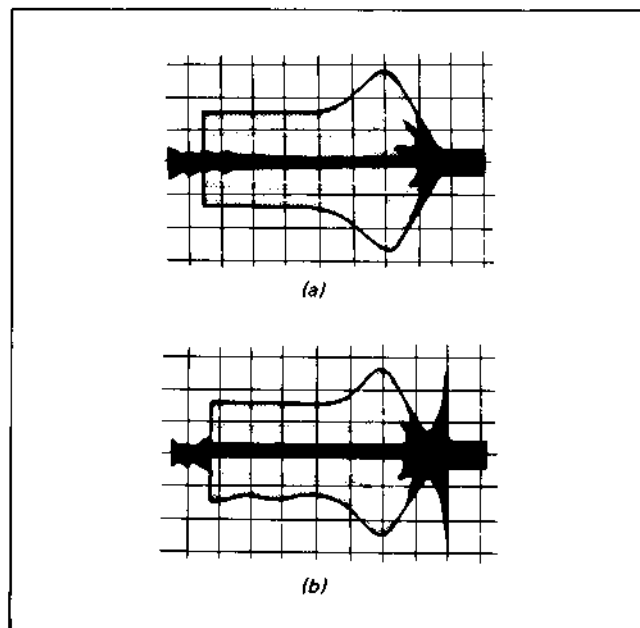
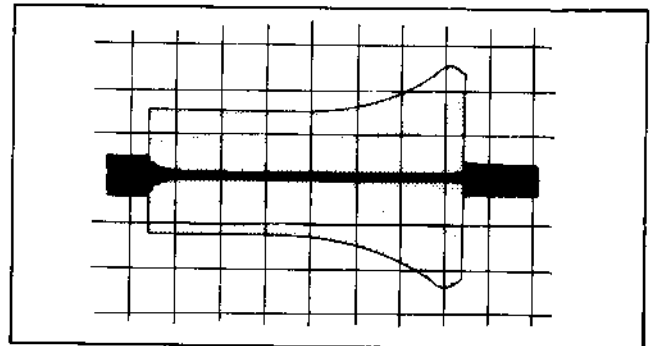
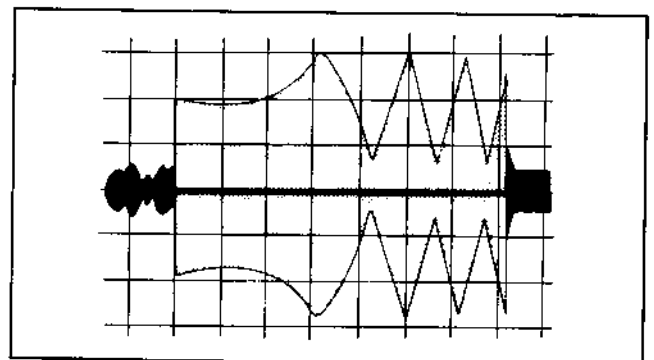

Fig. 4-7
Fig. 4-9
Fig. 4-10
- i) If the exit free waveform is within the range illustrated in Fig. 4-7(a), (b), proceed with exit side adjustment.
- i) If the waveform is within the range illustrated in Fig. 4-7(a), (b), proceed with the adjustment.
- ii) If the exit free waveform appears as shown in Fig. 4-9, turn the ACE lateral adjustment screw clockwise until the waveform is within the range illustrated in Fig. 4-7(a), (b).
- iii) If the exit free waveform appears as shown in Fig. 4-10, turn the ACE lateral adjustment screw counterclockwise to obtain the waveform shown in Fig. 4-9, then turn clockwise again until the waveform is within the range shown in Fig. 4-7.
- 5) If the RF output waveform is as shown in Fig. 4-9, where the exit side is not flat, lower No. 7, No. 8 guides again to flatten it.